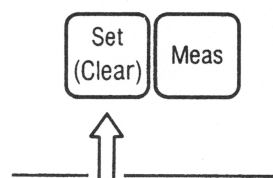

Figure 7. **Set** Temperature Key.
2. Press **Set** temperature key (Figure 7) to set-temperature for oven operation.
2. Press **[Set]** temperature key (Figure 7) to set-temperature for oven operation.